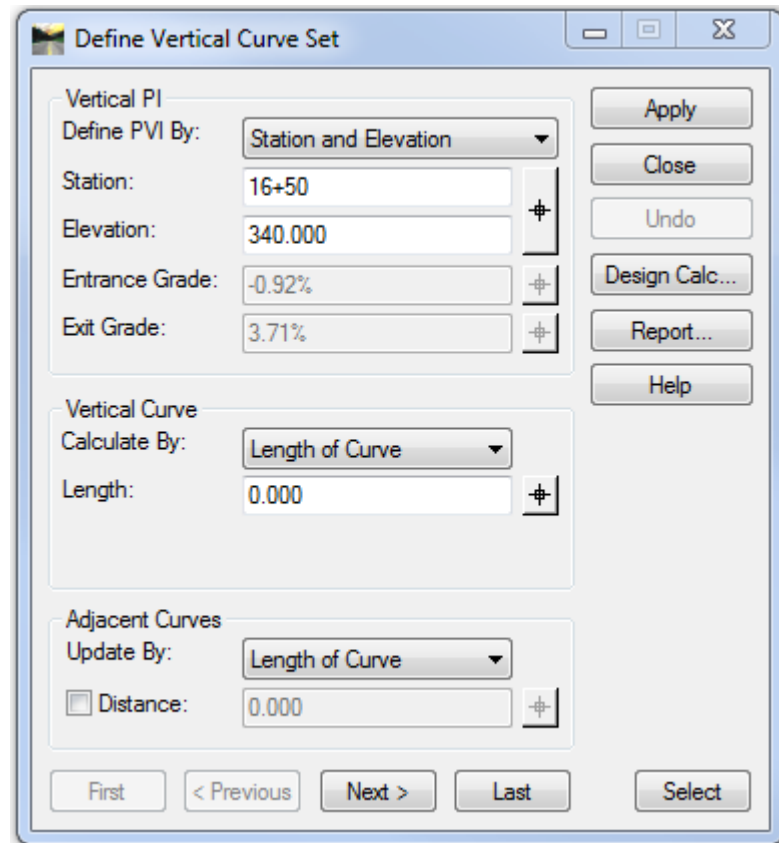

Figure 5-4 InRoads Define Vertical Curve Set Dialog Box
- B. In the **Vertical Curve** (see Figure 5-4) section of the **Define Vertical Curve Set** dialog box, set **Calculate By:** to **Length of Curve** and for **Length**, enter **300**. Click **Apply**. The vertical alignment display is updated with the vertical curve definition.